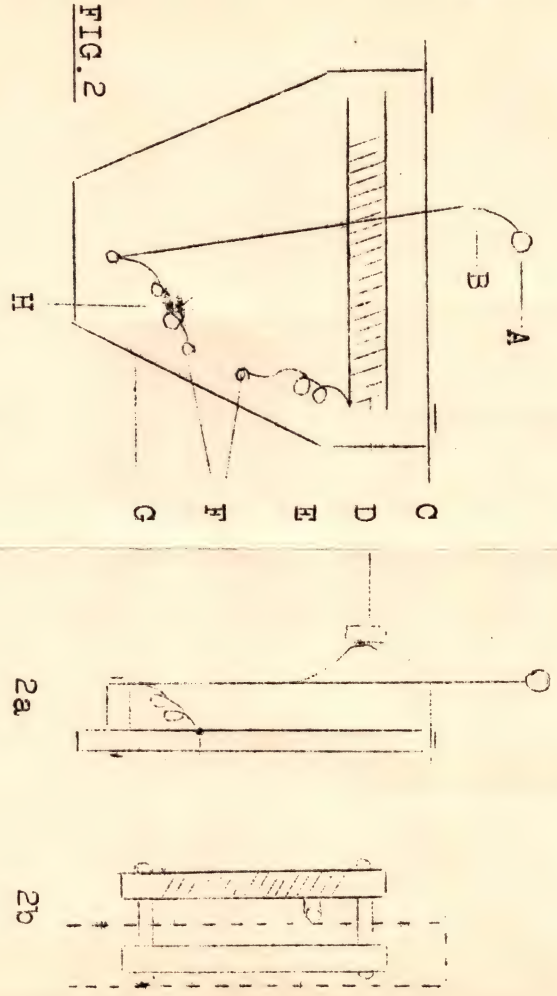

FIG. 2
Fig. 2 is the controller. (2A and elevation & 2B top view). A "throttle" type being preferred to knob twisting. "G" is a piece of  $\frac{1}{2}$ " plywood about 8" x 8" to which is pivoted a length of  $\frac{3}{8}$ " brass rod (B) with a wooden knob. (A). "H" is a pigtail connection to a terminal. "C" is a strip of brass 1" x  $\frac{1}{16}$ " x 10" for mounting purposes to stop the arm from wobbling and thus forming a slot.